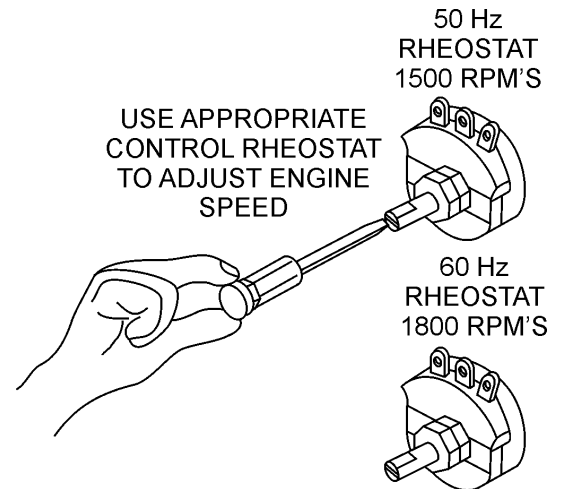

Figure 48. Engine Speed Rheostat's (50/60 Hz)
13. There are two engine speed control rheostat's (Figure 48), that are mounted on the side of the control box. One is used for 50 Hz operation the other is for 60Hz. Under normal conditions these controls should not have to be used. In the event the engine speed needs to be adjusted, use the appropriate control to fine tune the engine speed.